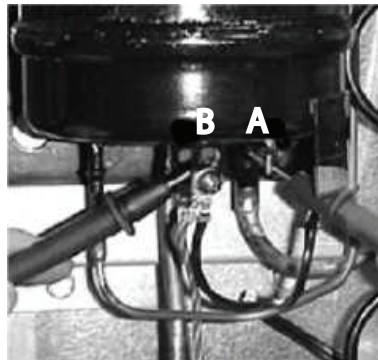

Figure 11. Taking an Ohm Reading
4. With the refrigerator power on, take an Ohm reading (1.4 - 3.5 Ω) at the compressor between points A and B. Refer to Figure 11.